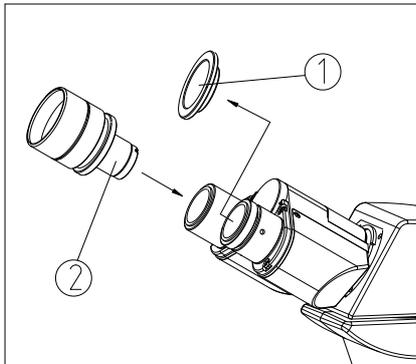

Fig. 5
1. Take down the cover of eyepiece tube ①.
2. Insert the eyepiece ② into the eyepiece tube, until touch the surface (see Fig. 5).